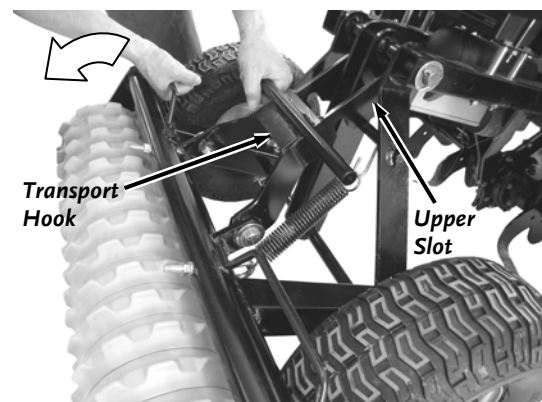

Figure 30
2. Lift up on the Culti-packer as you lift up on the Hook Assembly to disengage the Hook Assembly Slot from the Tiller Wheel Mount Assembly (**Figure 30**).